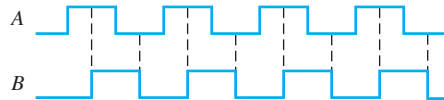

FIGURE 3-79
6. The waveforms in Figure 3-79 are applied to points *A* and *B* of a 2-input AND gate followed by an inverter. Draw the output waveform.
11. Determine the output for a 2-input OR gate when the input waveforms are as in Figure 3-79 and draw a timing diagram.